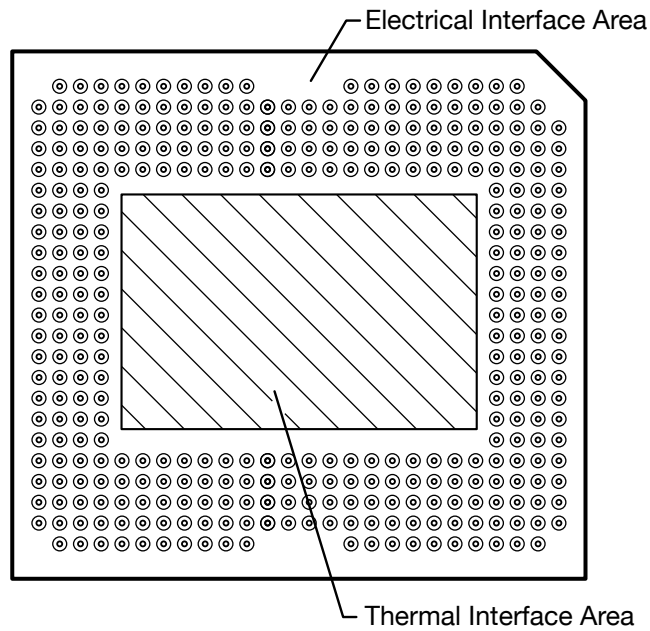

图 6-9. System Mounting Interface Loads
(1) The load must be uniformly applied in the corresponding areas shown in Figure 6-9.